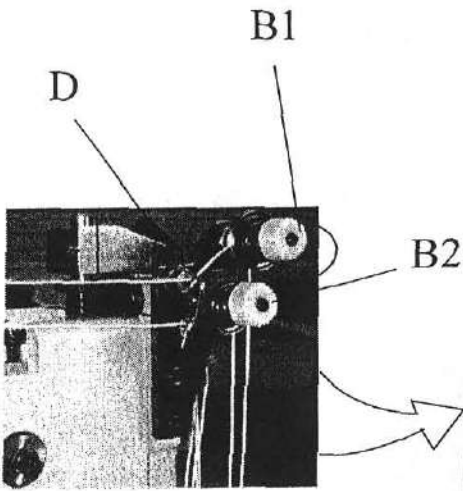

Fig.2
- From the right through the thread guide **D** of the down hole, as show in Fig.2 ◦
- Clockwise around and between tension disk of the control button **B2**,as show in Fig.2 ◦